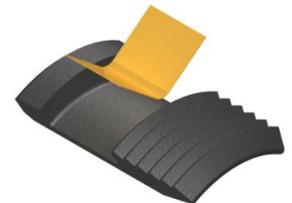

Fig 3
**NOTE5:** Install one (1ea) spring per slip (Fig. 3).